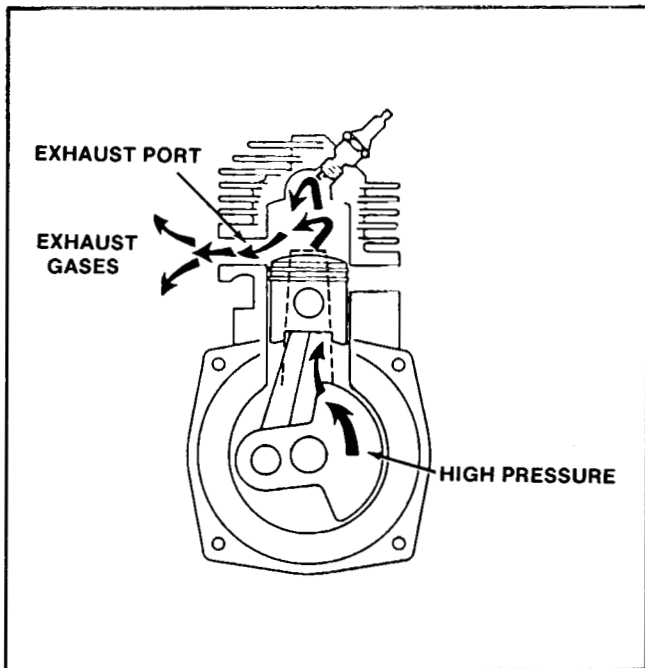

Figure 92
8. The exhaust port is uncovered by the piston and the exhaust gases are allowed to exit. See Figure 92.